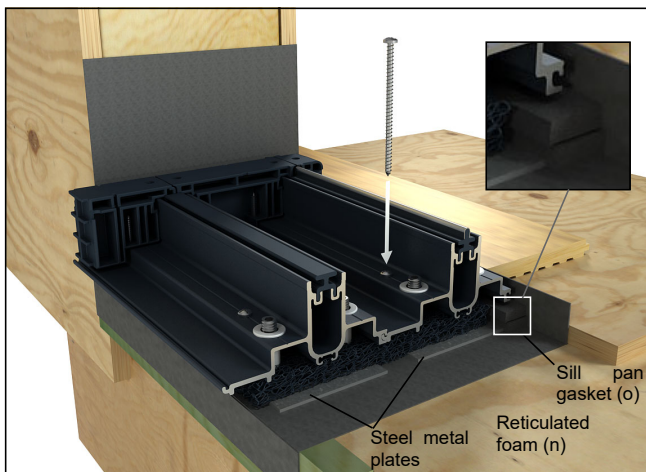

Figure 14
5. Install the sill pan gasket the entire length of the opening covering the scribed line with 1/8" (3) of the gasket to the interior of the scribed line. If shim space is less than 3/16" (4) use one layer, if more than 3/16" (4) use two layers. Shim space should not exceed 3/8" (10). See figure 14.
6. Place 1x3" (25-76) galvanized/stainless steel metal plates over each pair of chalk marks. See figure 14. If not using a self sealing sill pan material, place a bed of sealant (compatible with sill pan) over the location of each anchor screw.
NOTE: The galvanized plates need to be positioned directly under the leveling screws and out of the way of the anchoring screws. See figure 14.
7. Install reticulated foam, one row for each row of track, across the entire length of the opening. Stay 3" from each end to allow for spray foam. See figure 14.
8. Place the sill back into the opening and position as specified. Begin to install anchor screws to secure the sill and compress the foam. See figure 14. After installing a few anchor screws, place a level on the sill and begin the sill leveling process, adjusting the leveling screws and anchor screws, making sure that the sill is level within 1/32" (1) across the entire length of the sill.
NOTE: The reticulated foam and sill pan gasket will compress to help create a weather tight seal. See figure 14.